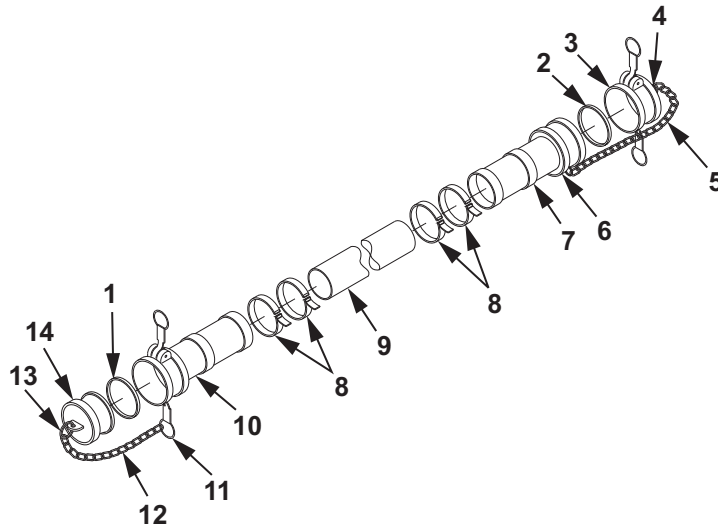

Figure 1. 4 In. X 10 Ft. Suction Hose Disassembly.
1. Cut and remove hose clamps (Figure 1, Item 8) from hose (Figure 1, Item 9) and discard hose clamps (Figure 1, Item 8).
2. Remove female coupling half (Figure 1, Item 10) and male coupling half (Figure 1, Item 7) from hose (Figure 1, Item 9).
3. Remove quick disconnect dust plug (Figure 1, Item 14) from female coupling half (Figure 1, Item 10).
4. Remove quick disconnect dust cap (Figure 1, Item 3) from male coupling half (Figure 1, Item 7).
5. Remove gaskets (Figure 1, Item 1, 2) from female coupling half (Figure 1, Item 10) and quick disconnect dust cap (Figure 1, Item 3).
6. Discard gaskets (Figure 1, Item 1, 2).
7. Remove split ring (Figure 1, Item 4) from quick disconnect dust cap (Figure 1, Item 3).
8. Remove split ring (Figure 1, Item 4) from chain (Figure 1, Item 5).
9. Remove split ring (Figure 1, Item 6) from male coupling half (Figure 1, Item 7).
10. Remove split ring (Figure 1, Item 6) from chain (Figure 1, Item 5).
11. Remove split ring (Figure 1, Item 11) from female coupling half (Figure 1, Item 10).
12. Remove split ring (Figure 1, Item 11) from chain (Figure 1, Item 12).
13. Remove split ring (Figure 1, Item 13) from quick disconnect dust plug (Figure 1, Item 14).
14. Remove split ring (Figure 1, Item 13) from chain (Figure 1, Item 12).